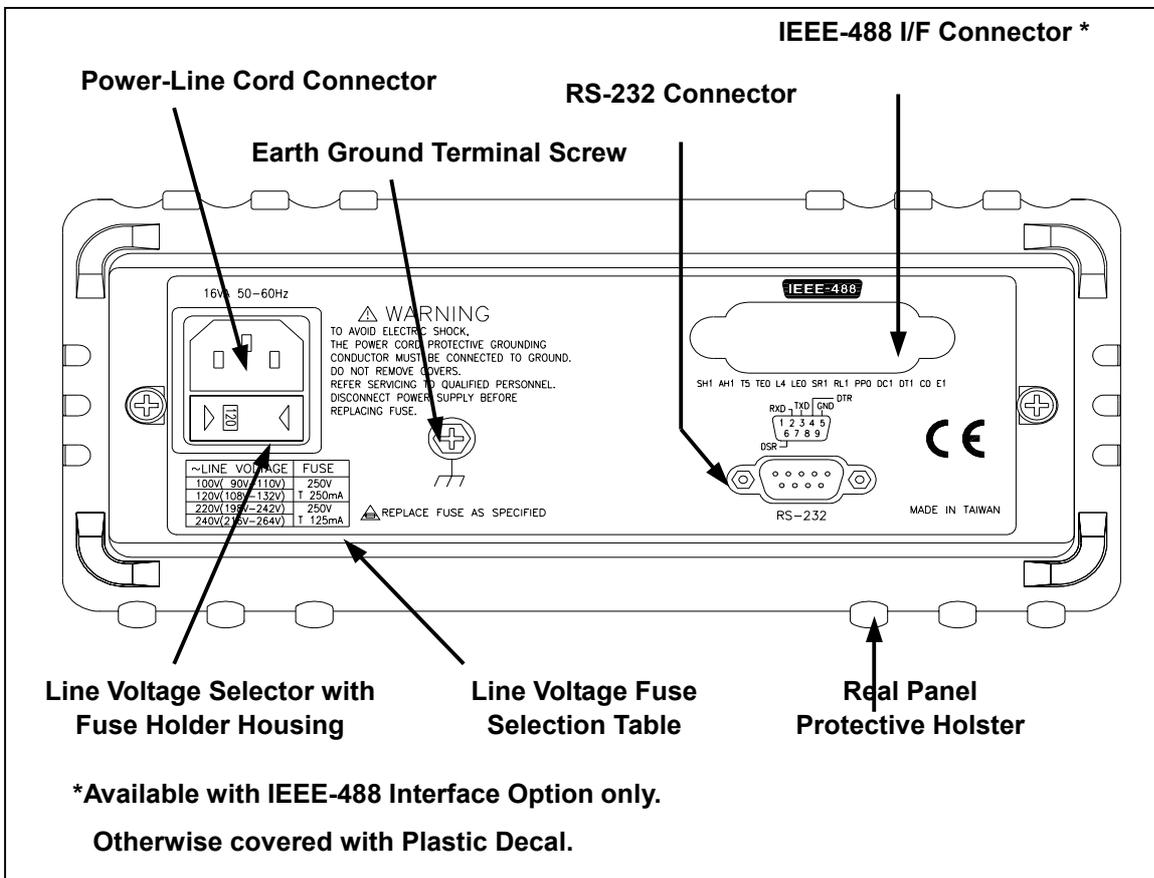

Figure 2-2. Rear Panel
The rear panel (shown in Figure 2-2) contains a line fuse, the power-line cord connector, an RS-232 interface connector, and a cutout for IEEE-488 interface (optional) connector.
- Figure 2-2 illustrates the location of the Line Voltage Selector with Fuse Holder housing. If user has already done so, plug the line cord into the connector on the rear of the meter. The meter will operate at any line voltage between 90Vac and 264Vac when “line voltage selector” is set properly, and its frequency range is at 50/60Hz. For operation safety, DO NOT APPLY a line voltage that exceeds the range specified to line cord connector on the rear panel of the meter.